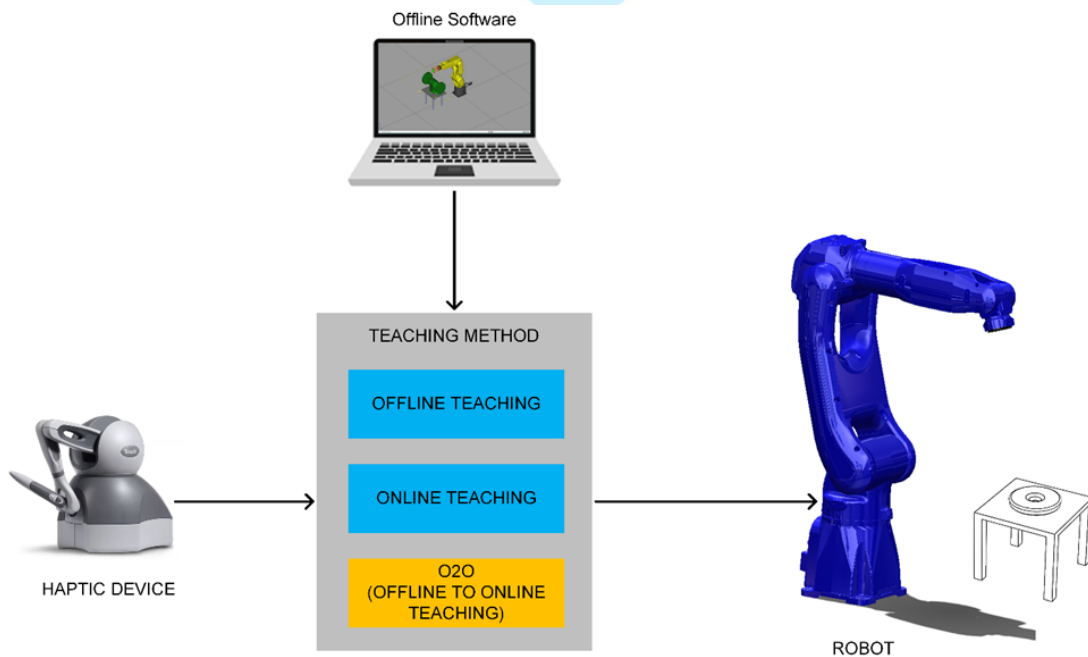

Figure 1.1 System Overview
The offline-to-online (O2O) is a robotic teaching method that combine the online teaching and offline teaching method. This method utilizes an offline software to generate the trajectory to be used as a reference trajectory. Then, the reference trajectory is combined with the online method to improve the performance and accuracy of the offline trajectory to perform the tasks. The online teaching method implements a haptic teleoperation system to assist the operator to control the robot arm. Thus, the operator does not need to directly interact with the robot, for example in the lead-through programming. By using teleoperation, the operator can teleoperate the robot and control the movement from distance. The O2O system comprises of three main components: (1) **haptic teleoperation device**, (2) **offline robot simulator**, and (3) **robot hardware**. Figure 1.1 shows the overview of the O2O system.